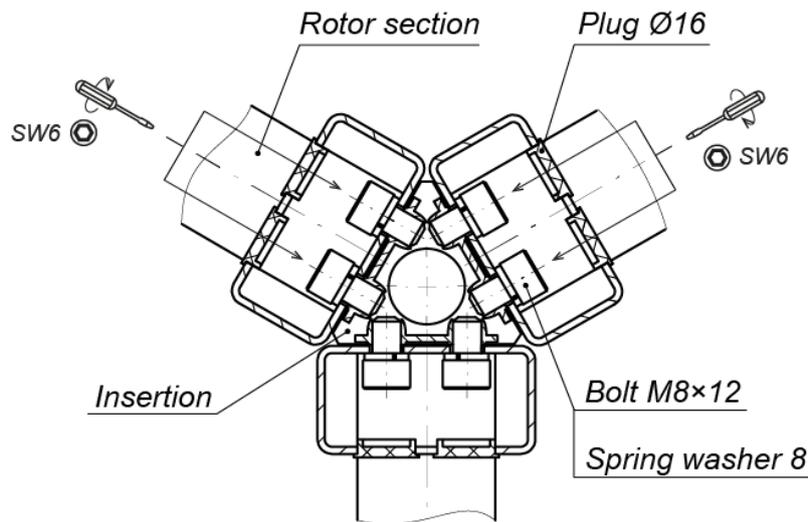

Figure 20. Juncture of the rotor (1) sections
- Fasten successively the two remaining sections to the attachment points of the section installed using 4 bolts M8×14 for upper mounting points and 20 bolts M8×12 (wrench SW6) for the rest of the attachment points with spring washers (Fig. 20). It is recommended to use the tool that adheres to the bolt being tightened, for instance, use the tool with a magnet tip for the works on the steel rotor. Stainless steel bolts are applied for the stainless steel rotors, in this case a sticky tape wrapped around the tip of the tool or some other ductile materials are advised to be used.